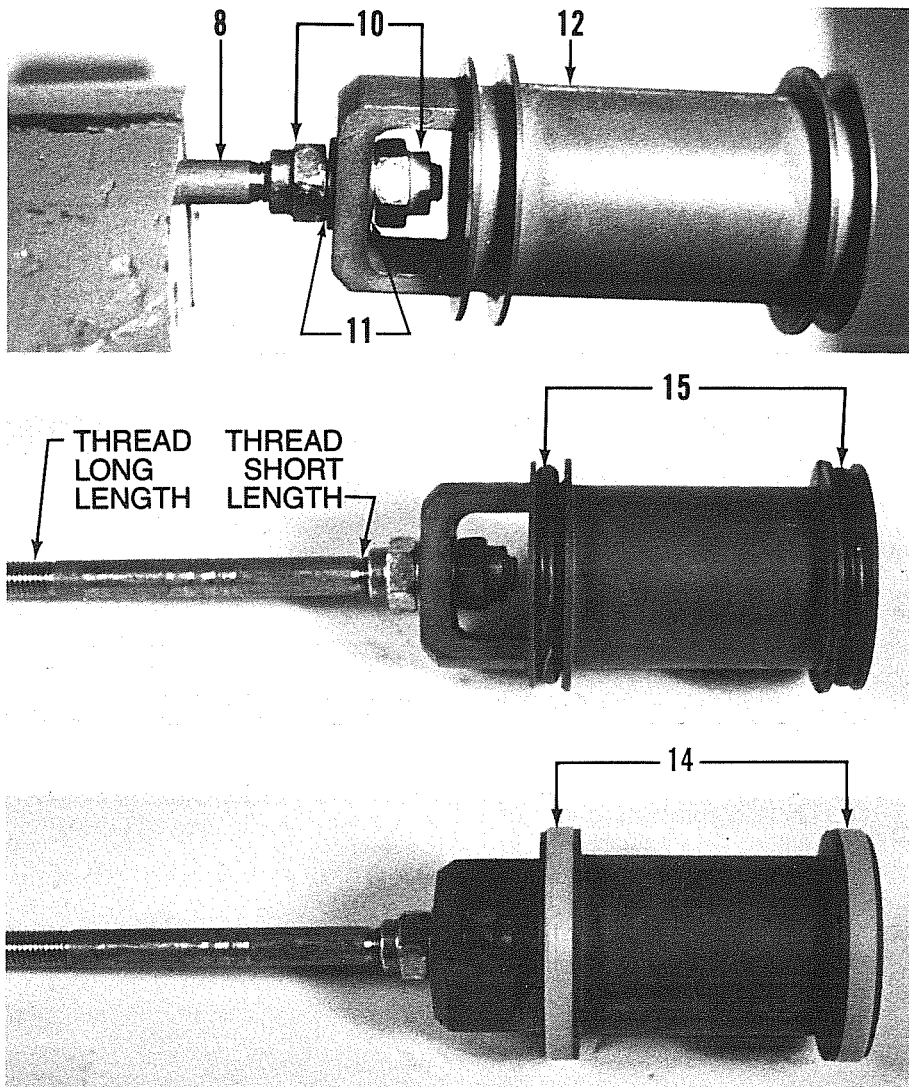

Figure 7-1, Shuttle and connecting rod components.
7.1.1 Hold connecting rod (8) in vise. Install lock nut (10), top first, onto shorter length of threads of rod. Screw nut to leave only two threads exposed at shank end of threads. In sequence, install: flat washer (11), shuttle (12), flat washer (11) and lock nut (10). See Figure 7-1.